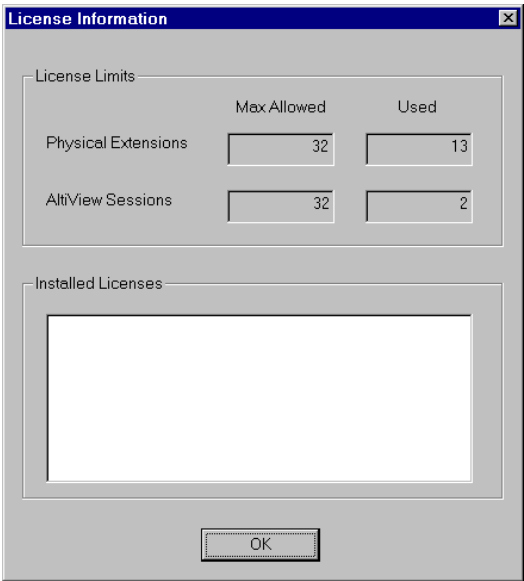

Figure 2-4. License Information display window
- **License Information** display window - Click on the **About AltWare** icon in the Main Menu or through the Help Menu. Click on the **License Information** button to view the **License Information** display window (Figure 2-4). The license limits for physical extensions and AltView sessions are displayed, as well as the installed licenses.